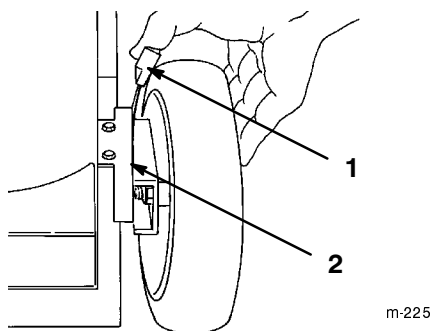

Figure 15
3. Squeeze the cutting height adjuster lever toward the wheel (Fig. 15) and move it to the desired setting.